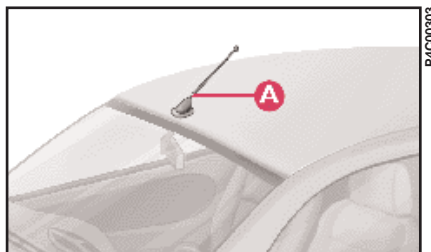

fig. 94
– one dual purpose aerial (sound system and cellular phone) **A** (fig. 94) located on the front part of the roof;